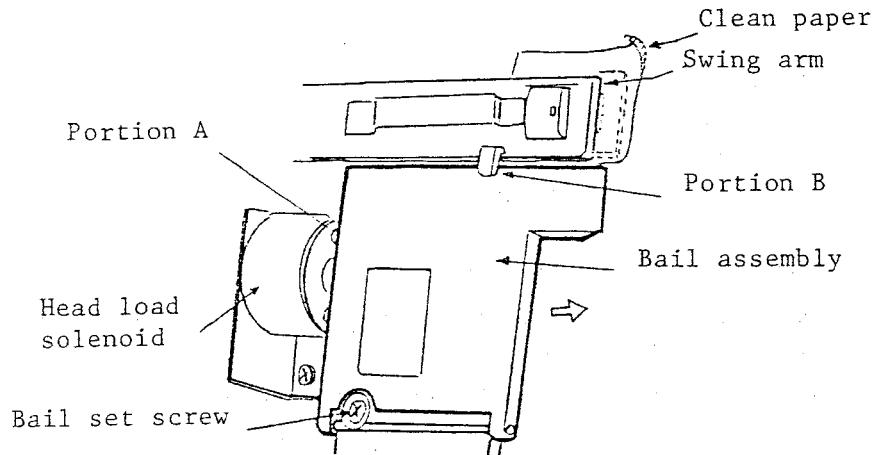

Fig. 4.9 Head Load Bail Assembly
(1) Tools and measuring instruments to be used:
(2) Disassembling
- Remove a bail set screw ($M4 \times 1$), and pull out the bail assembly in the arrowed direction (Fig. 4.9). At this time, hold portion B of the head swing arm by hand to keep the head from any impact.
(3) Assembly
(4) Adjustment